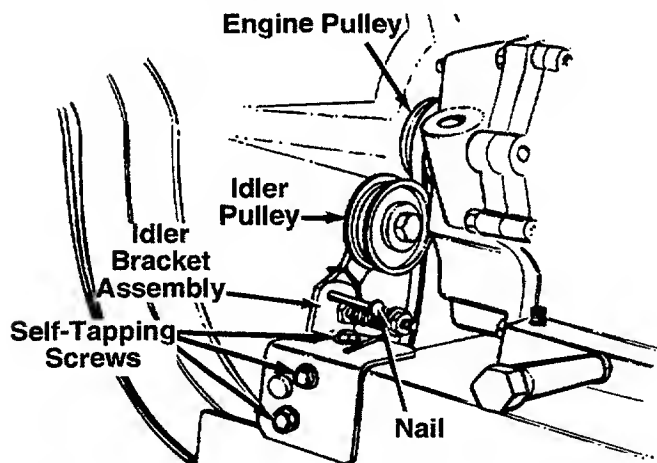

FIGURE 25.
- Remove the idler pulley bracket as follows. See figure 25.
- Remove the hex bolt and lock washer from the engine pulley. See figure 25. Slip the engine pulley off the engine shaft, and remove the belt from the pulley.